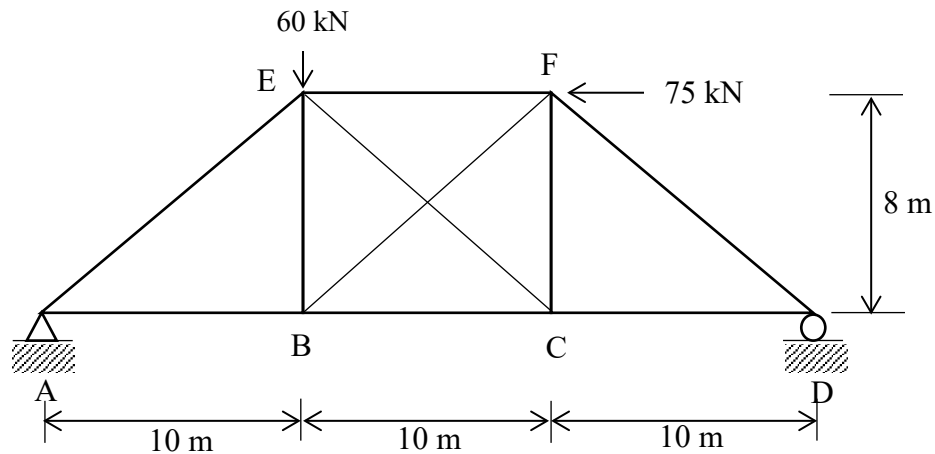

Figure A1(c) / Rajah A1(c)
- CLO2 (c) A statically indeterminate truss is subjected to an external load as shown in Figure A1(c). Given the cross-sectional area, A and modulus of elasticity, E is constant for each member of the truss and internal force as shown in Table A1(c). Calculate the internal forces for each truss member by using the magnitude of redundant, R . Take member BF as a redundant member.